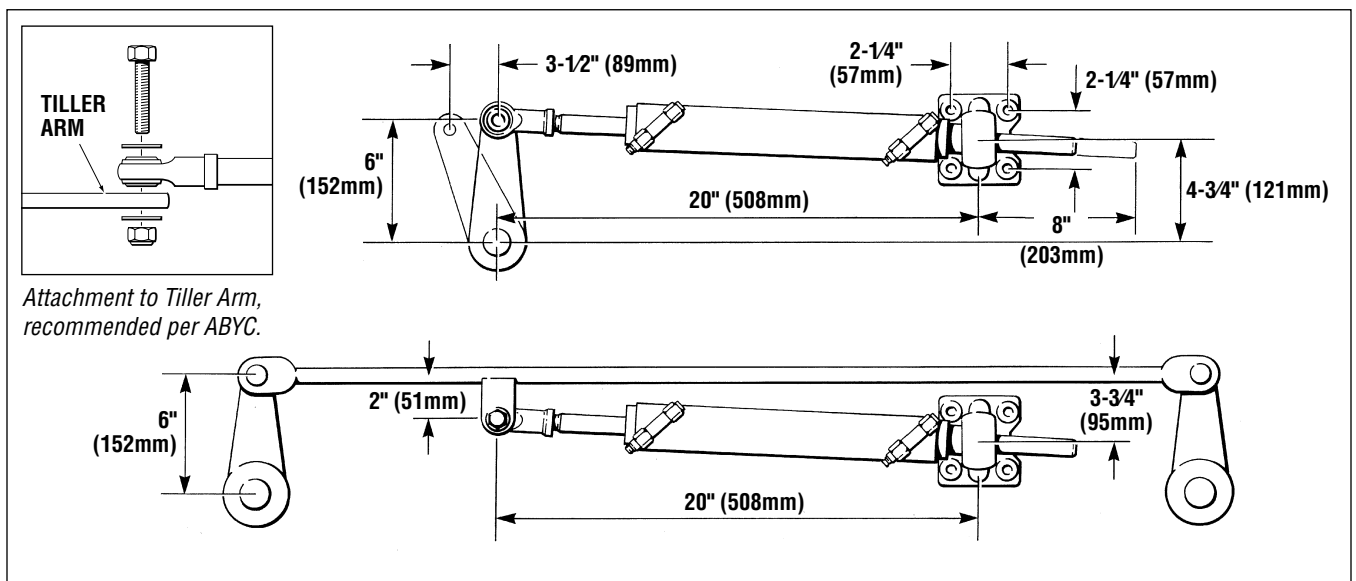

Figure 3.
- 4 Extend cylinder rod to arrive at 20" (508 mm) from center of rod end ball joint hole to the center of the mounting foot, (as shown in figure 3 below).